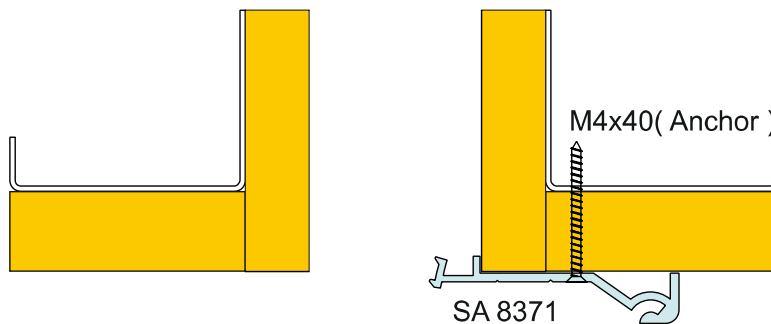

Figure 2.
STEP 2. Attach the clip (SA8371) to the wall or ceiling using the anchors with spacing the anchors a maximum of 30 cm. o.c. The anchor at the ends of the extrusion must be a maximum of 15cm. from the end of the extrusion. (figure 2).